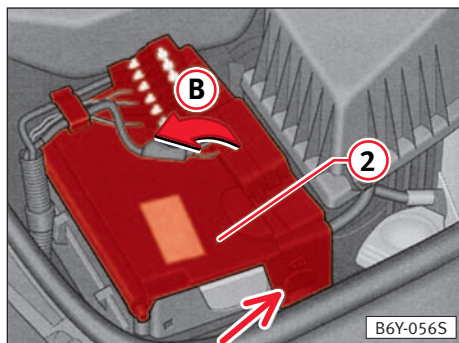

Fig. 127
- Gently pull lateral flange of the battery cover ⇒ arrow, fig. 127. Lift the cover by pulling in the direction of arrow ②.